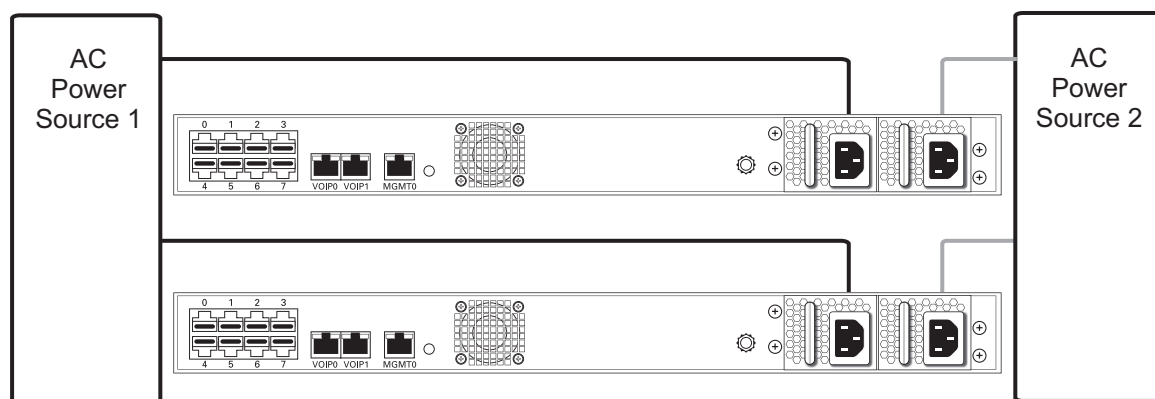

Figure 2.13 TMG800 and TMG800 +1 AC Power Connection
1. Connect the first power connector of each unit to the first power source. See Figure 2.13.